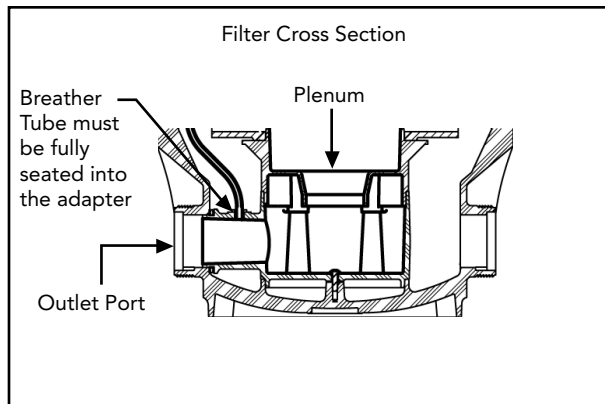

Figure 7- Changing the Outlet Port
2. Remove the three (3) screws holding the Breather Tube Support. Slide the Support off of the tank rib. The bottom of the Breather Tube will stay in the Plenum (see Fig. 7).